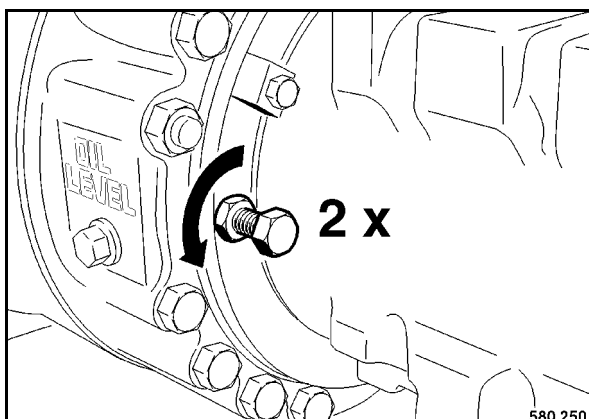

Fig. 52
- Unscrew the brake releasing screws (Fig. 52) for two turns and tighten the counter nuts.